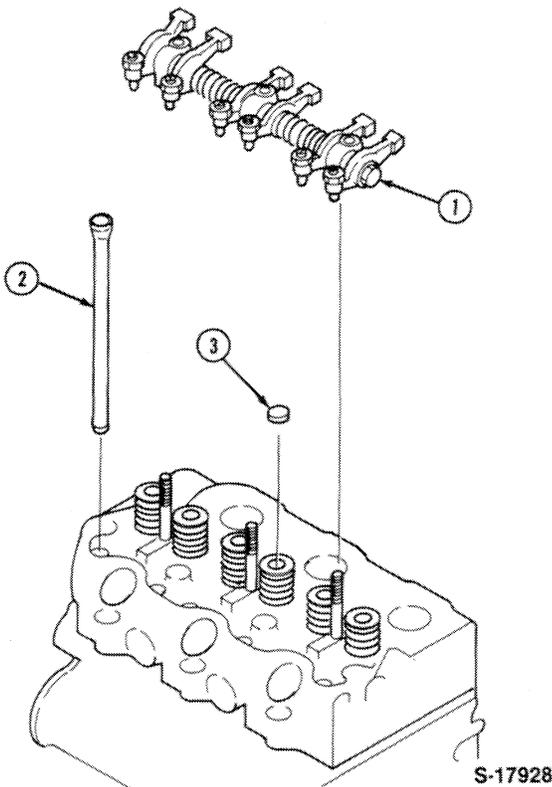

Figure 12
- 15. Remove the valve rocker shaft as an assembly, Figure 12.
- 16. Remove the valve stem caps and push rods, Figure 12.